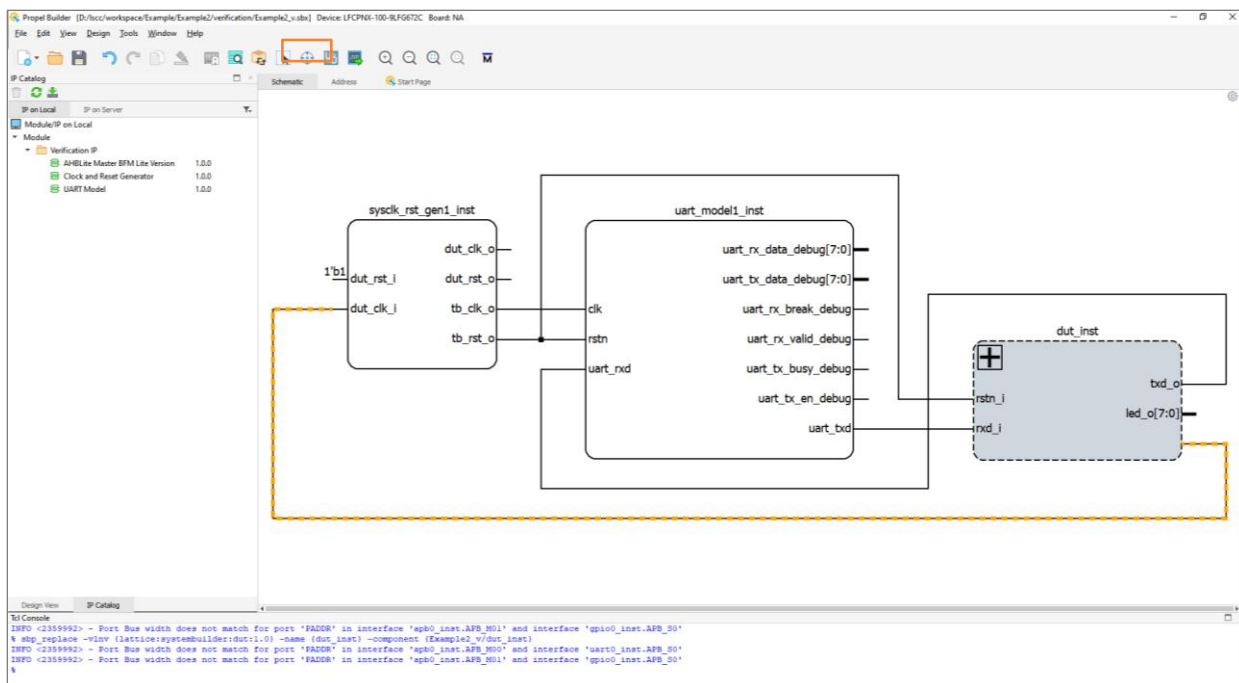

Figure 2.163. Verification Project
3. Click **Yes** to save the current design project. The Propel Builder GUI switches to verification project (Figure 2.163).
- If you want to go back and design more on SoC project, click **V/D** button  on the verification project window to go back to the SoC design project.(Figure 2.163)